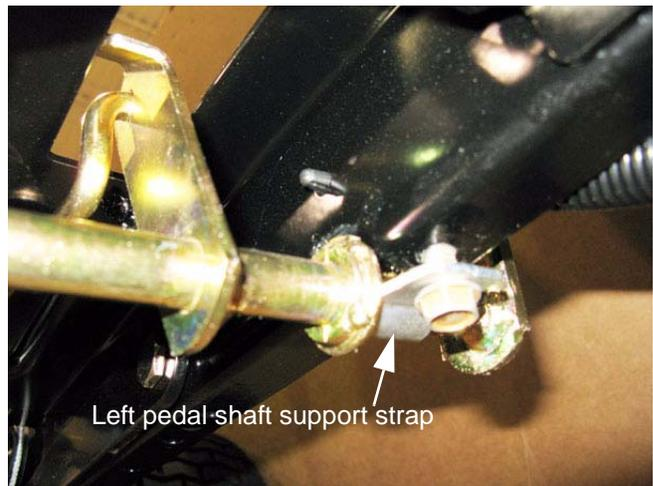

Figure 5.26
8. Loosen the bolt that holds the left pedal shaft support strap using a 1/2" wrench. See Figure 5.26.